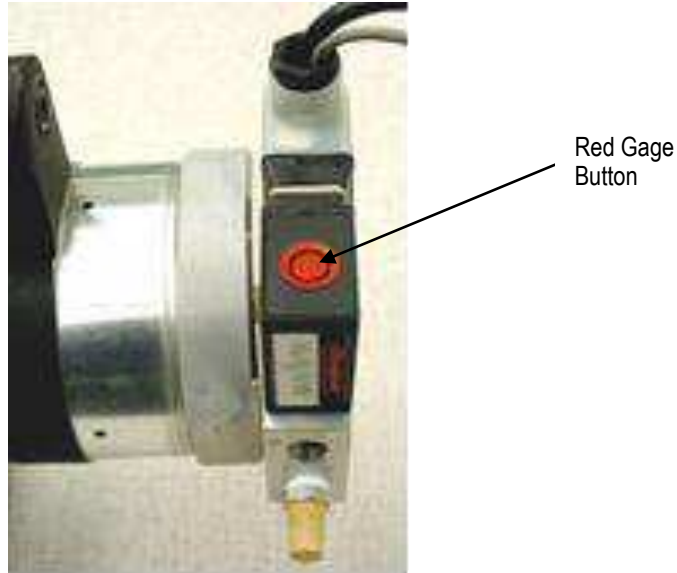

Figure 2
2. To Calibrate: Select the proper NO-GO and GO gage for the die assembly which is in the tool. Depress and hold the red gage button (see Figure 2) which will cause the tool to actuate and remain in the closed position. The gage can then be used to check the opening between the indenters to determine if the die assembly is to the correct dimension. The "GO" gage should enter freely. The "NO-GO" gage should not enter.